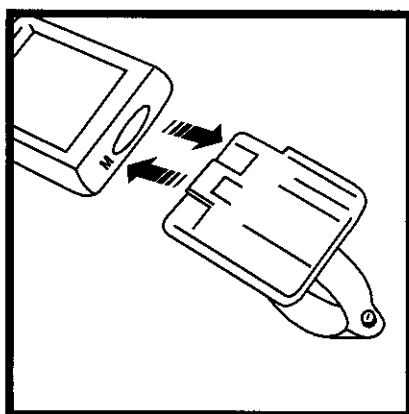

Fig. 20
4. Attach the bracket to the handlebar, on the right-hand side of the stem. Position the bracket end with the Phillips head screw nearest the rider (Fig. 20).
5. To remove the computer from the bracket push the computer away from you with your thumb, with your index finger against the back of the mounting bracket for support (Fig. 20).